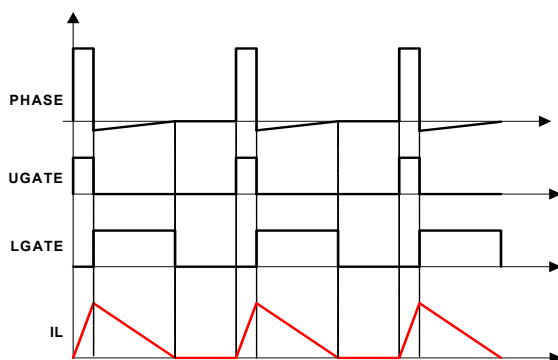

FIGURE 28. DIODE EMULATION
The R3 modulator can operate in Diode Emulation (DE) mode to increase light-load efficiency. In DE mode the low-side MOSFET conducts when the current is flowing from source-to-drain and does not allow reverse current, emulating a diode. As shown in Figure 28, when $LGATE$ is on, the low-side MOSFET carries current, creating negative voltage on the phase node due to the voltage drop across the ON-resistance. The IC monitors the current by monitoring the phase node voltage. It turns off $LGATE$ when the phase node voltage reaches zero to prevent the inductor current from reversing the direction and creating unnecessary power loss.
If the load current is light enough, as Figure 28 on page 32 shows, the inductor current will reach and stay at zero before the next phase node pulse and the regulator is in Discontinuous Conduction Mode (DCM). If the load current is heavy enough, the inductor current will never reach 0A and the regulator is in CCM although the controller is in DE mode.